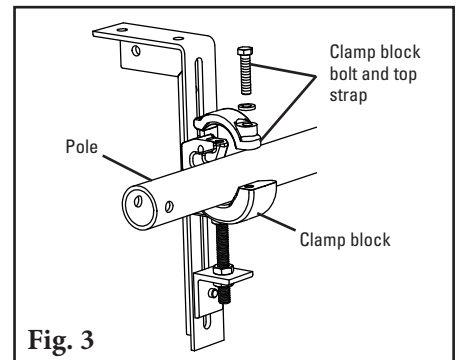

Fig. 3
- 3. Install the pole.** Remove the clamp block top strap on the access side of the conveyor, and on the opposite side loosen the clamp block bolt. Slide the pole across and into the loosened clamp block, place near end of pole in bottom section of clamp block (Fig. 3). Replace the top strap on the clamp block, centre the blades on the belt and tighten both clamp block bolts finger tight.
- 3. Set the blade angle.** Centre the pole/blades on the belt. Rotate the pole until the tips are perpendicular to the belt. Tighten the two locking bolts on each torsion pole mount to lock the pole in place (Fig. 3). There should be no blade-to-belt contact while locking the pole in the correct position. If contact occurs, double-check the dimension from Step 1.